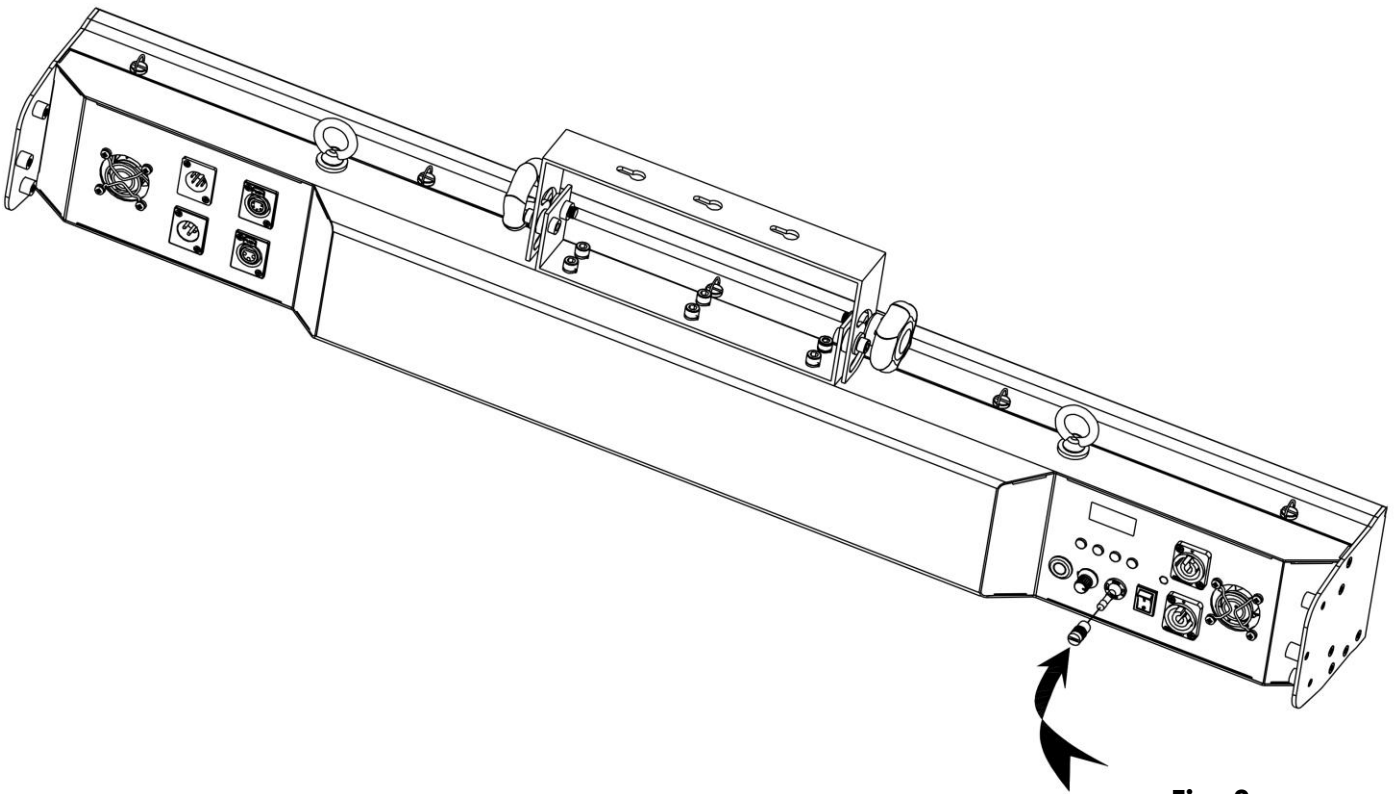

Fig. 8
2. Insert a screwdriver into the slot in the fuse cover. Turn the screwdriver to the left, at the same time gently push a bit (Turn and Push). The fuse will come out. (Fig. 8)